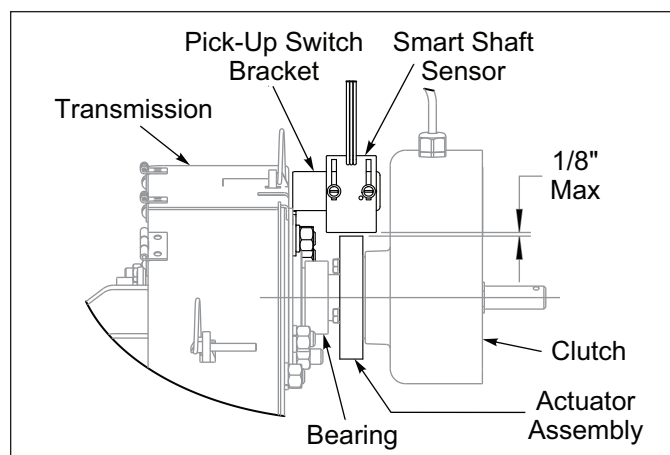
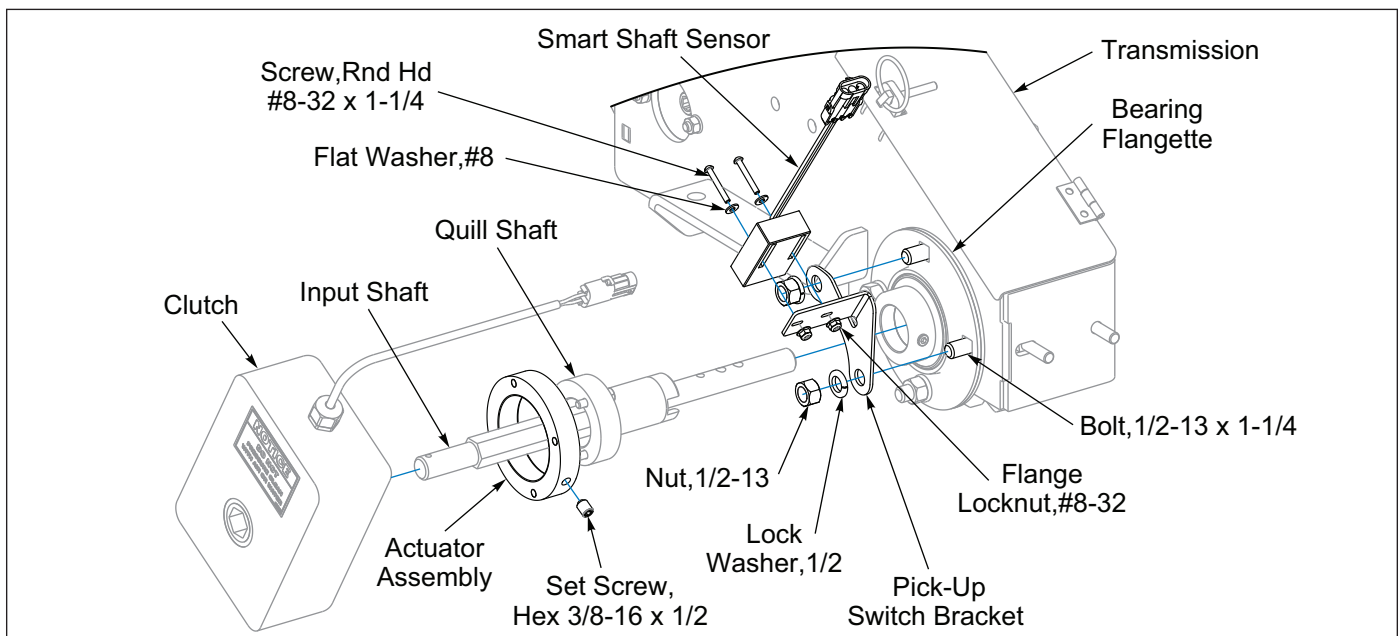

Figure 2-30: Ground Speed Sensor Detail
Figure 2-34: Brillion Elite Mini Monitor - Ground Speed
2. Remove Seeder Clutch. Install Actuator Assembly onto the Quill Shaft outer diameter, securing with Actuator Assembly Set Screw. Reinstall Clutch. **See Figure 2-34.** Install Pick-up Switch Bracket to the Transmission Input Shaft Bearing Flangette Hardware. Assemble Smart Shaft Sensor onto the Pick-Up Switch Bracket with sensor provided hardware and #8-32 Flange Locknuts. Adjust the Smart Shaft Sensor so that it is 1/8" Max away from the Actuator Assembly. **See Figure 2-30.** Connect Ground Speed Smart Shaft Sensor to the Center Seeder Harness.